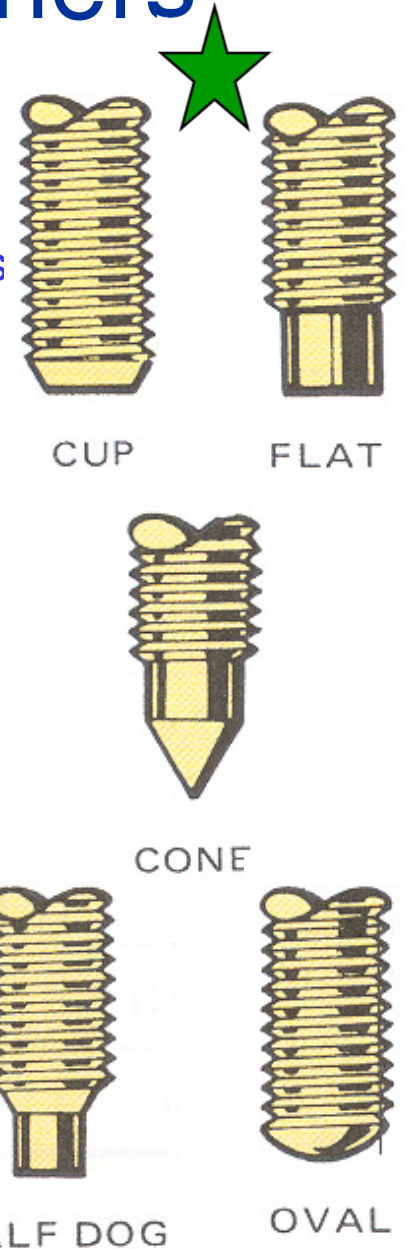

Fig. 10-3-6
- The point of a fastener is the configuration of the end of the shank of a headed or headless fastener. Standard point styles are shown in Fig. 10-3-6.